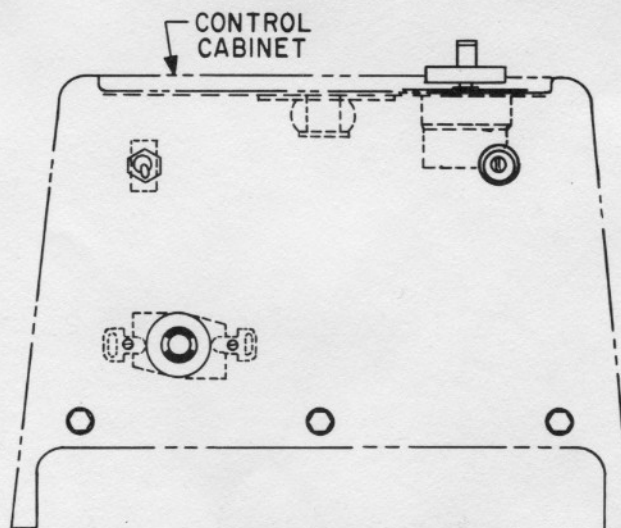

Figure 3
8. Install the accessory outlet from the inside of the control cabinet and secure with #6 hex-head machine screws and lock washers in each of the mounting holes. See Figure 3. The lock washers should be located under the screw heads on the outside of the control cabinet.